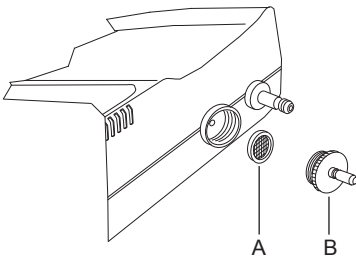

Fig. 7
- 1 Remove the front terminal from the polisher handpiece (Fig 7).
- 2 Unscrew the male coupling milled ring-nut (Fig.7 - Ref.B).
- 3 Take out the filter (Fig.7 - Ref.A), wash it under running water to eliminate any impurities and/or clogs.